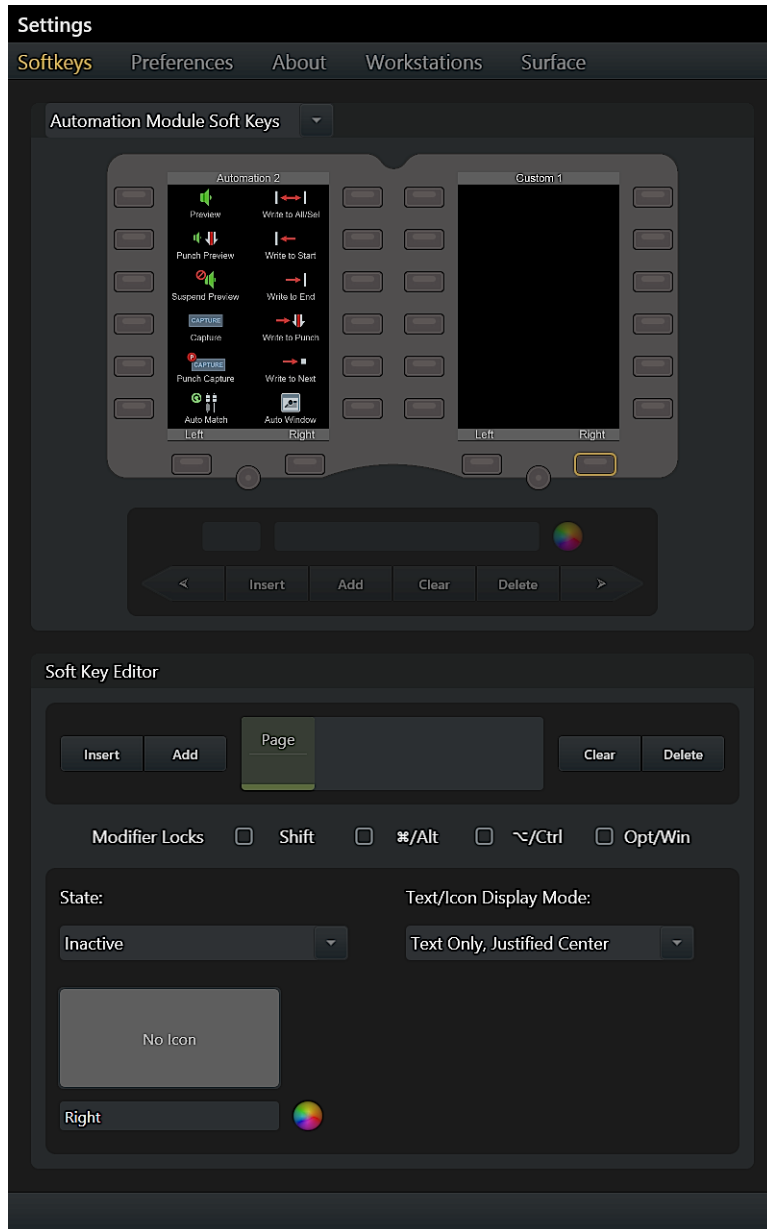

Figure 33. Left and Right navigation keys defined for a Soft Key bank
- 8 Repeat the previous steps for the “right” navigation key of the new bank, defining it to Go to Next Page as shown in Figure 33.